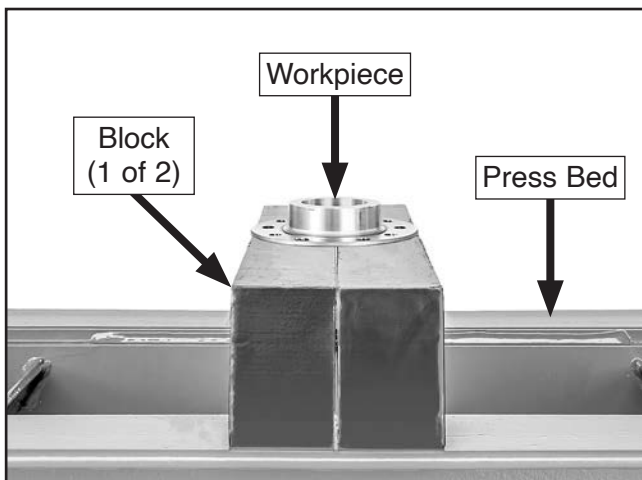

Figure 28. Workpiece positioned on blocks and centered under ram.
2. Lower safety guard and place workpiece on press bed or blocks and center under ram (see **Figure 28**).